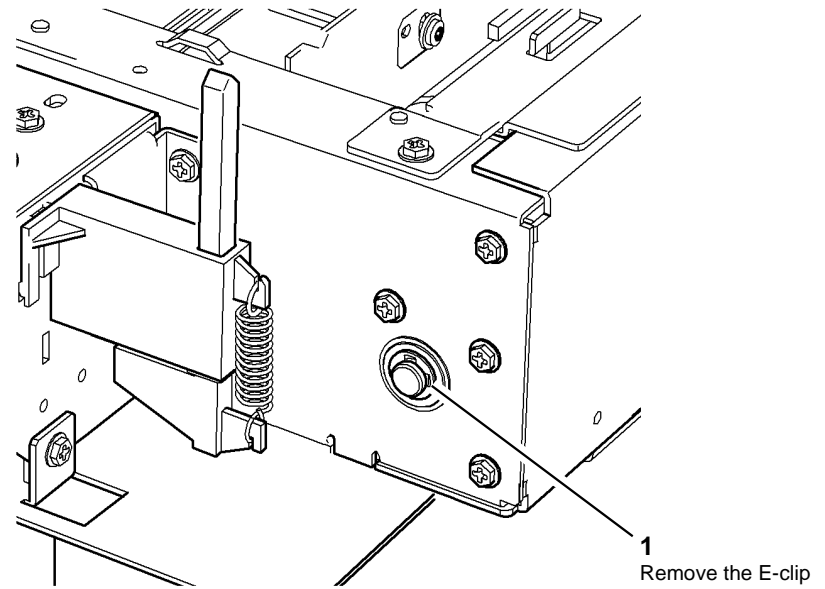

Figure 2 Release the scan shaft
6. Release the scan carriage drive shaft, Figure 2.